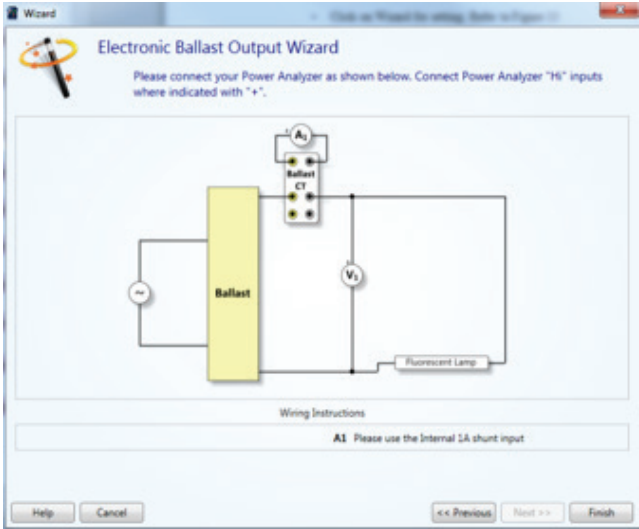

Figure 15. Example of Ballast result display Window.
- Click on Measure and Start to capture all the measured parameters' values, as shown in Figure 15.